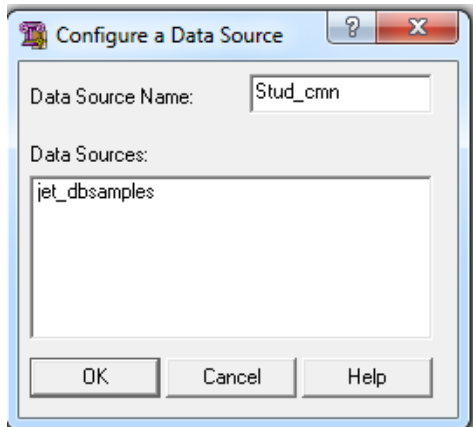

Fig. 3. Dialog box *Configure a Data Source*
- we select (by clicking right mouse button) *Configure Data Source* from the menu *dbConnect*; therefore AutoCAD will display the dialog box *Configure a Data Source*, see Fig. 3;